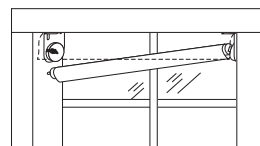

Fig 7
- b. Then insert the idle end plug into the idle end unit, and snap the idle end securely into place (Fig 7).